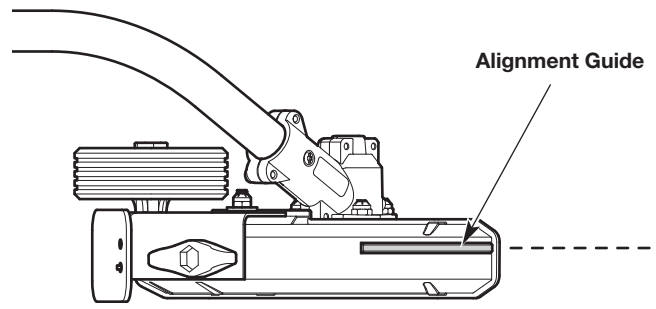

Fig. 12
- Use the alignment guide to help maintain proper alignment (Fig. 12).